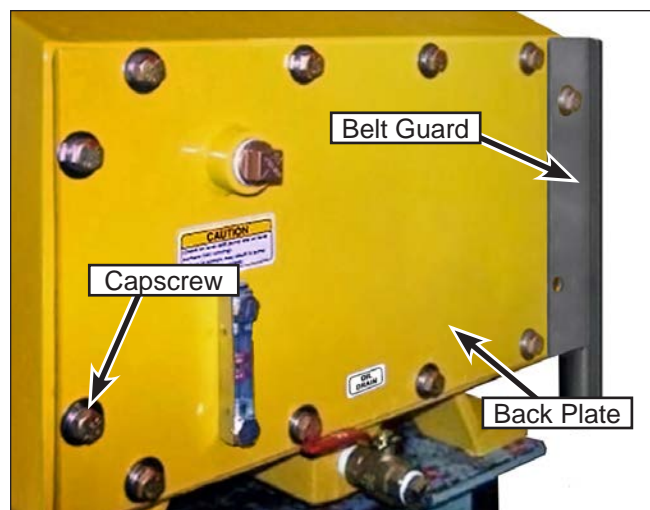

Figure 108: Back Plate Removal.
2. Once drained, remove the capscrews, washers and lockwashers from the back plate (Figure 108). Remove the plate, belt guard and gasket. If the gasket is stuck to the frame, it can remain.